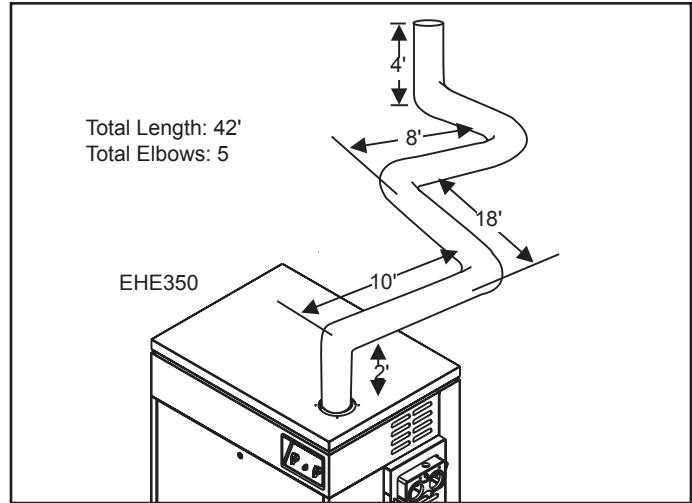

Figure 6. "One-pipe" installation.
**EXAMPLE:** A model 350 heater is to be installed in a one-pipe system with schedule 40 PVC or CPVC, see Figure 6. The vent pipe run is 42 feet long and has